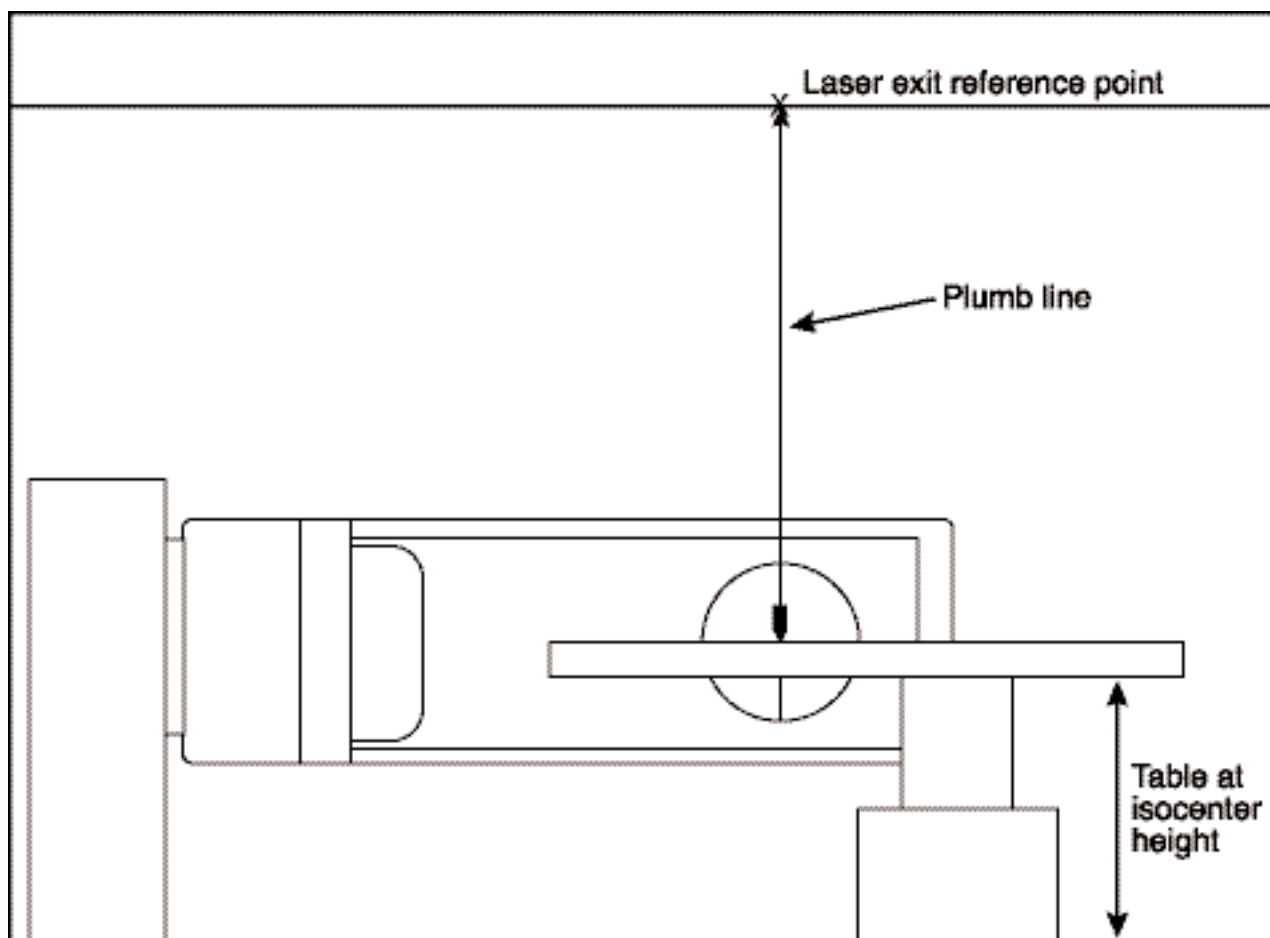

Figure 15
5. Hold a plumb bob from the ceiling so that the bottom weight hits the dot on the table. The point at which the string hits the ceiling indicates the laser exit reference point. Mark this with a pencil. *Figure 15*